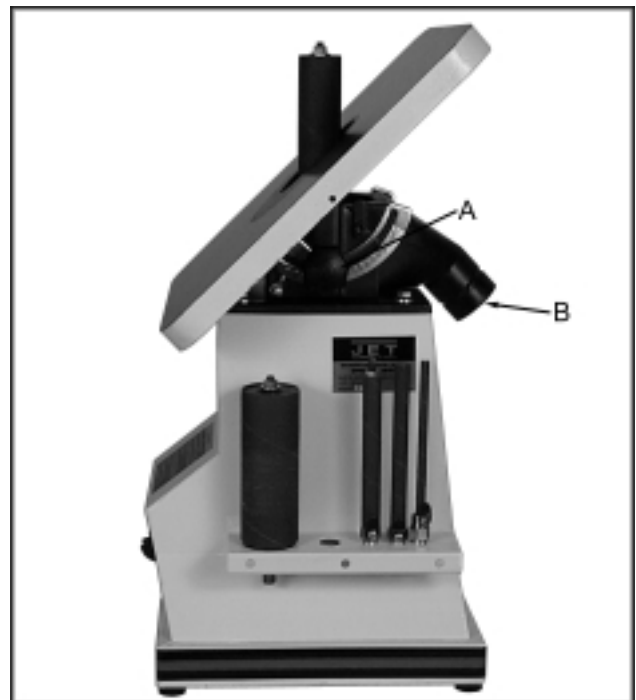

Fig. 4
1. Loosen both knobs (A, Fig. 4) and adjust the table to the desired angle.
The dust port (B, Fig. 4) can be hooked directly to a 2" hose for dust collection.